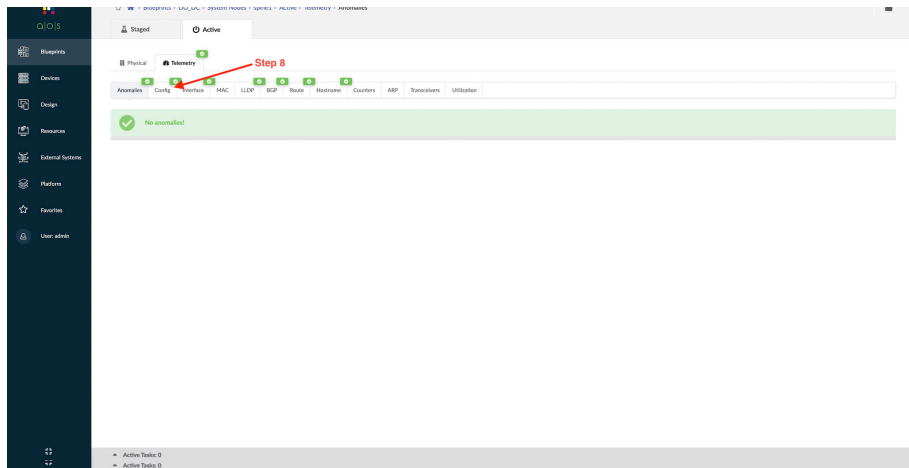

Figure 7.30 Verifying a Configlet Has Been Applied
Step 8: Click Config. See Figure 7.30.